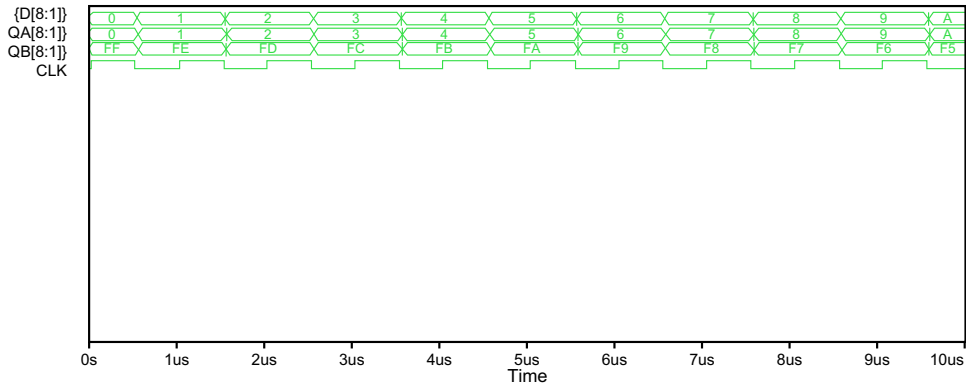

FIGURE 18.14
12. You should see the count increase for bus D[8-1] and QA[8-1]. As U3 is an inverting buffer, the count for QB[8-1] will start at FF and decrease accordingly. Compare your waveforms with those shown in Figure 18.14.